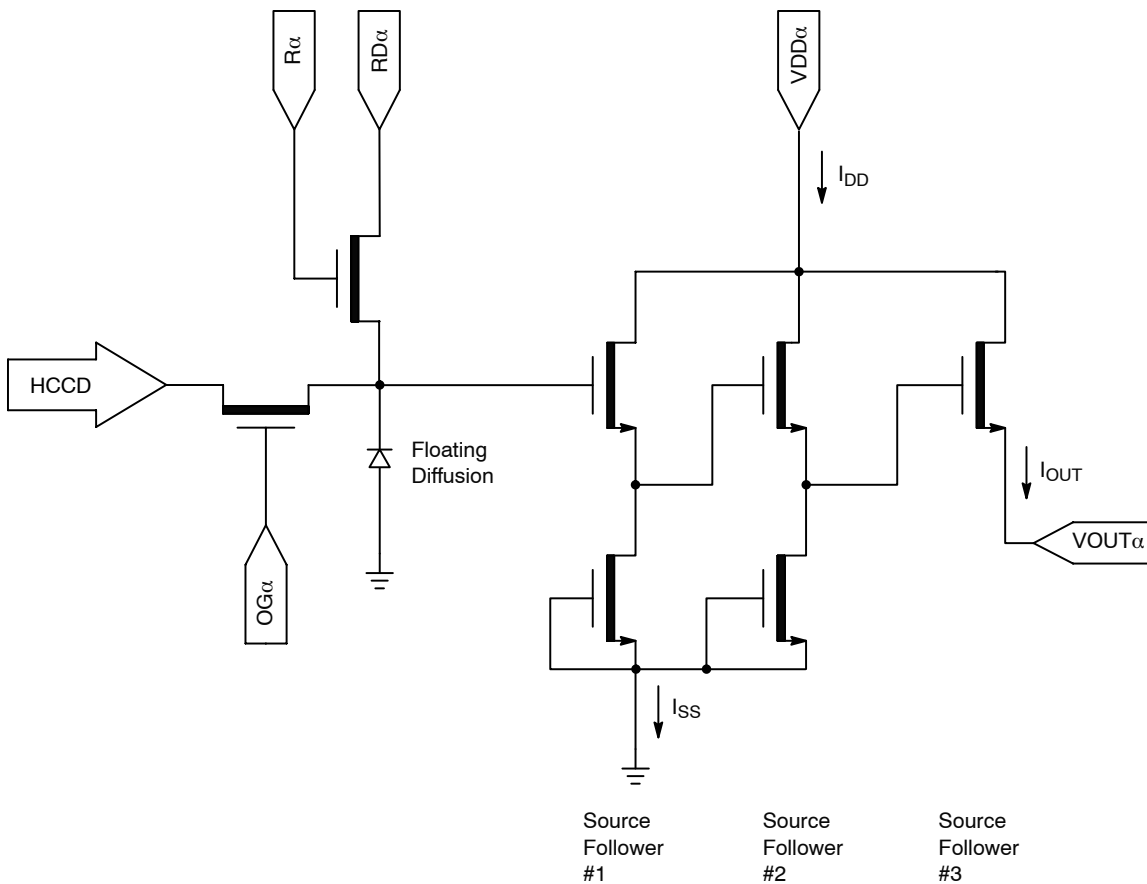

Figure 16. Output Amplifier
2. The maximum DC current is for one output. I_{DD} = I_{OUT} + I_{SS}. See Figure 16.